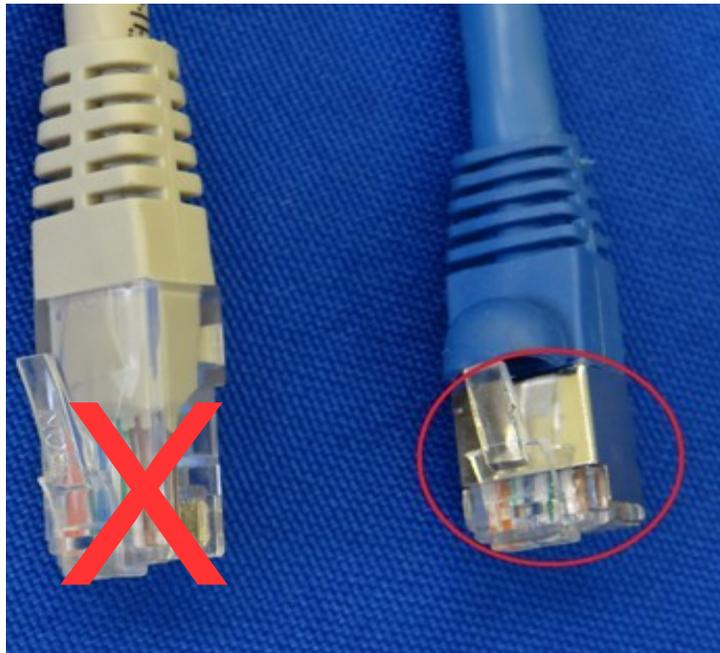

Figure 2: Unshielded Ethernet cable (gray) compared to Shielded Ethernet cable (blue)
3. **Connect the Ethernet Cable:** Connect a shielded Ethernet cable to the Acorn. Connect the other end to the CNCPC (note: A shielded Ethernet cable is required and will have a metal clip around the RJ-45 connector it as shown by the blue cable in Figure 2 A Part# 7269 15ft Shielded Ethernet cable is included with the Acorn kit.